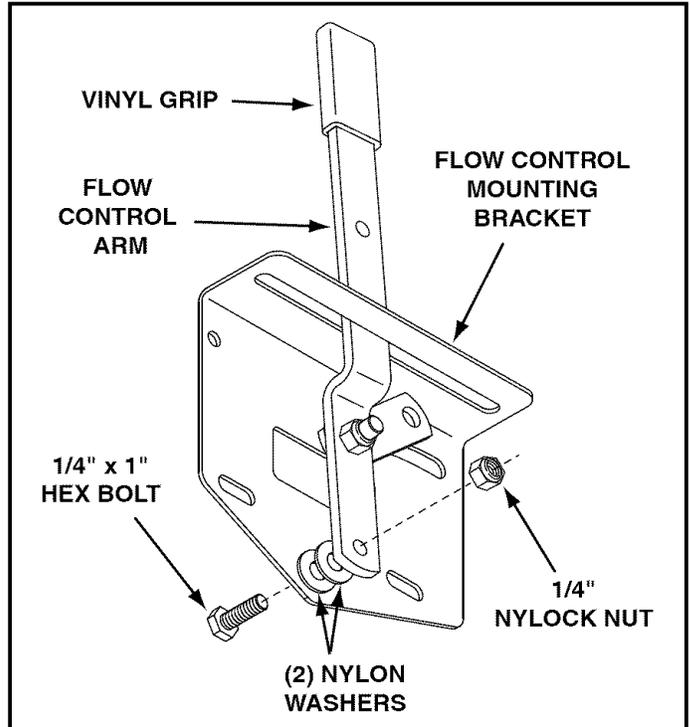

FIGURE 7
- Assemble the flow control arm to the flow control mounting bracket using a 1/4" x 1" hex bolt, two nylon washers and a 1/4" nylock hex nut as shown in figure 7. **Tighten carefully.** The flow control arm should not be loose but should pivot with no more than a slight resistance.
- Place the vinyl grip onto the flow control arm. See figure 7.